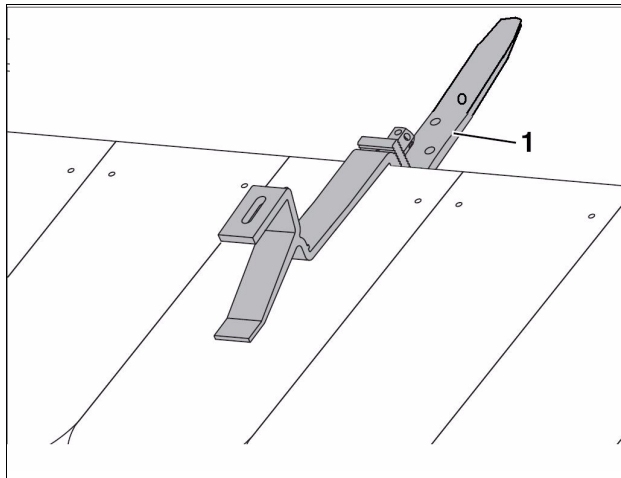

Fig. 16 Installed roof hook
- ▶ Push the lower part of the hook down until it lies flat on the sheathing (Fig. 16, [1]).
The toothed washer (Fig. 16, [2]) must engage with the teeth on the lower part of the roof hook.